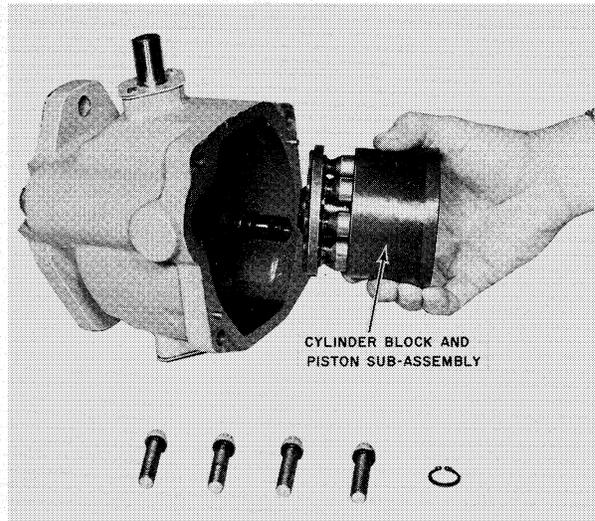

FIGURE 17
7. Now carefully remove rotating group assembly, consisting of the cylinder block and the piston shoe sub-assembly. Hold the complete block piston shoe sub-assembly together to prevent separation while removing from the motor. See Figure 17.